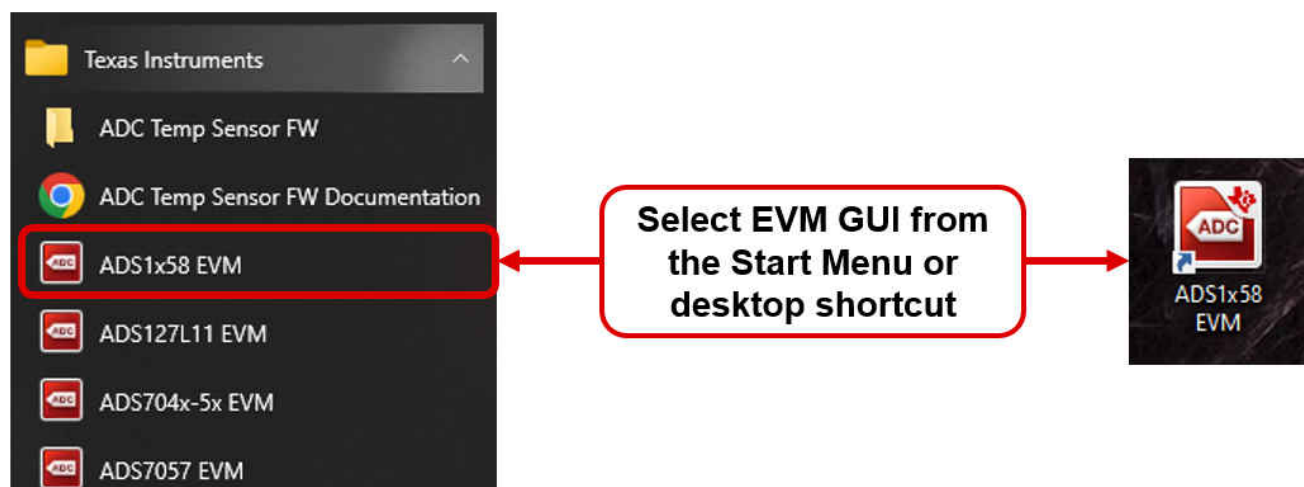

Figure 7-2. Launch the EVM GUI Software
3. Start the software GUI as shown in Figure 7-2. The LEDs blink slowly as the FPGA firmware is loaded on the PHI. This loading takes a few seconds and then the AVDD and DVDD power supplies turn on, as indicated by LEDs D1 and D2 on the ADS1258EVM.